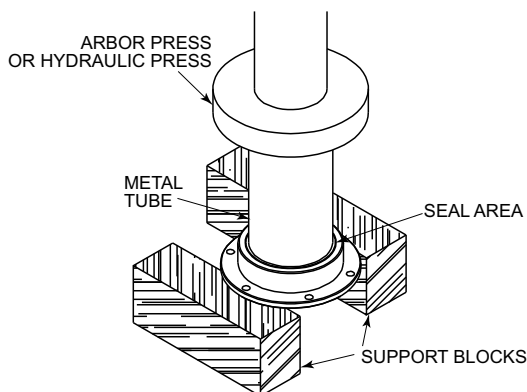

Figure 6.2.2 Removal of Seals from Seal Carrier
2. With a set of blocks or equivalent, support the seal carrier up so the seals can be pushed out; reference **Figure 6.2.2**, next page.